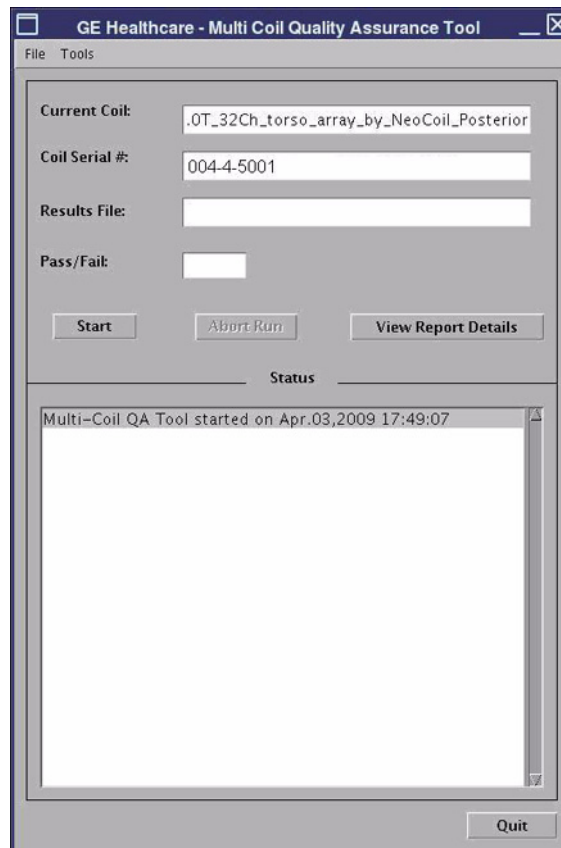

Figure 4-2 MCQA tool window with the current coil connected
3. A pop-up window as shown in Figure 4-2 will appear with the 'Current Coil' field automatically filled in. Please wait for a few seconds if the field is empty.